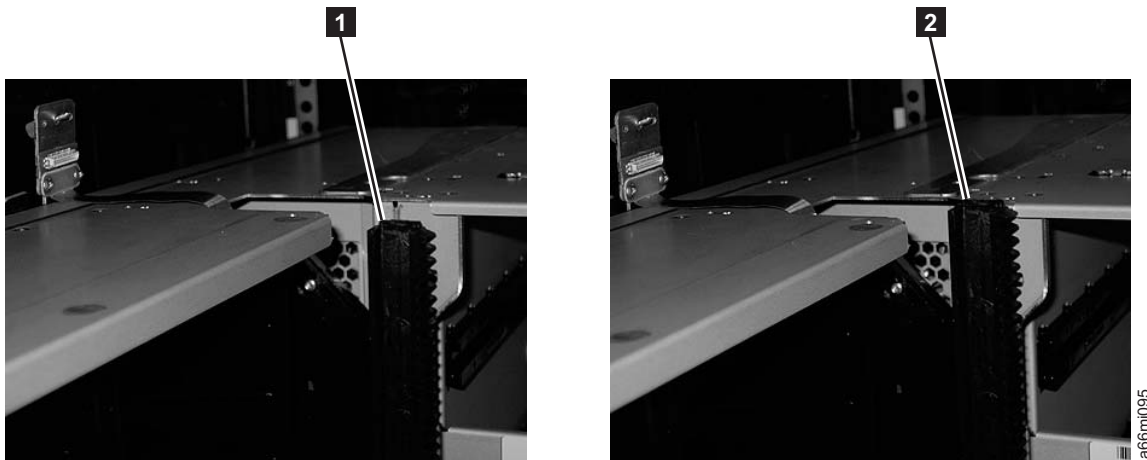

Figure 4-15. Gear racks positions
2. **IMPORTANT:** Ensure that the front and rear gear racks of the top module are locked in the upper position (see **2** in Figure 4-15).
13. **IMPORTANT:** Lower the gear racks into the down (operating) position. See **1** in Figure 4-15 on page 4-14.
1. **IMPORTANT:** Ensure that the front and rear gear racks are in the down (operating) position (see **1** in Figure 4-15 on page 4-14).